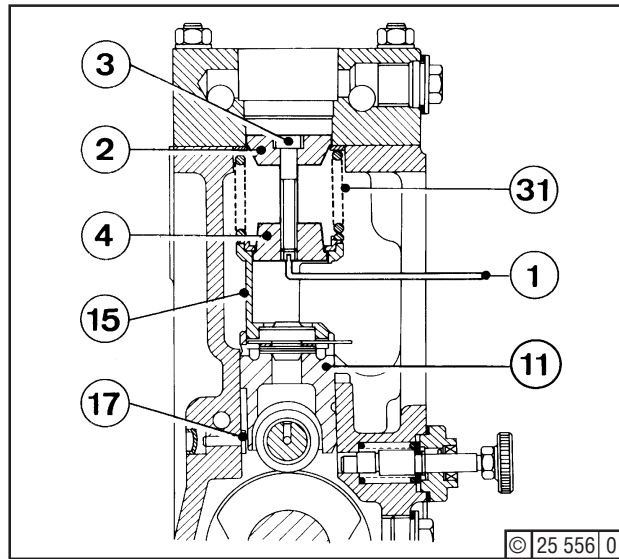

Fig. 2
Turn engine by barring gear until roller of relevant tappet rests on cam peak. Insert assembly device - Fig. 2 - in injection pump together with screw (3), washer (2) and slotted nut (4). Compress spring (31) by means of screw and hook spanner (1). Turn engine further until tappet roller rests on cam base circle. Remove spring assembly device from pump together with spring. Then remove support (15) and tappet (11).
Refitment is effected in the reverse order to removal. Guide pin (17) - Fig. 2 - into groove of tappet.